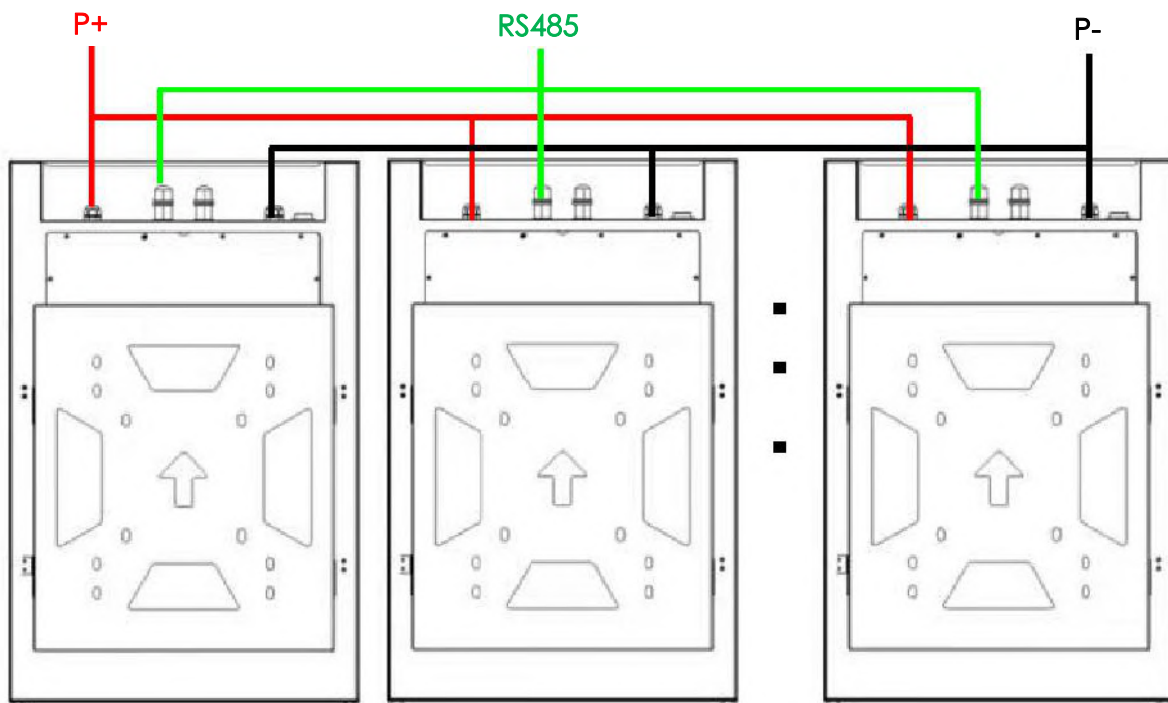

Figure 3-10
- d. Connect the power cables, communication cables correctly as shown in Figure 3-10 below